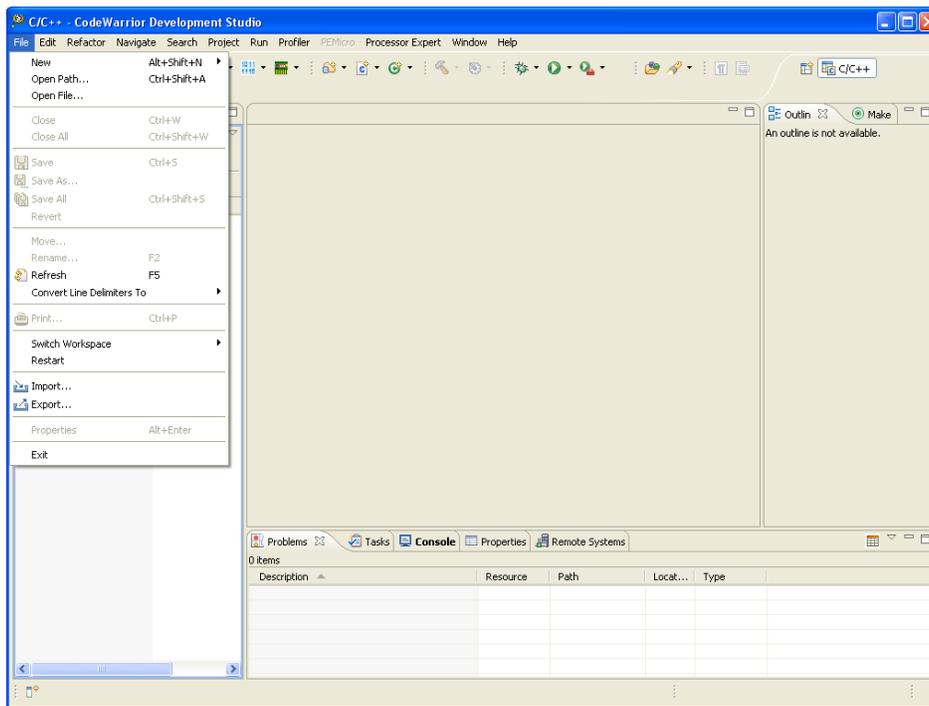

Figure 3-18. CodeWarrior Import Project...
2. Select File -> Import... as shown in Figure 3-18.